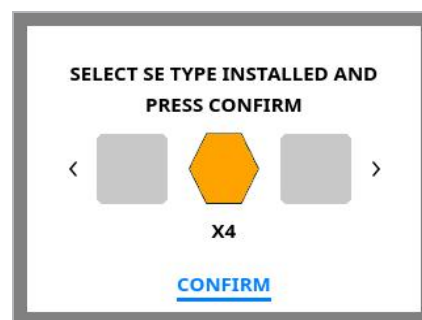

Figure 8-6: Selecting the sensing element type
Step 7: Using the display, select the appropriate sensing element type, then select **Confirm** (Figure 8-6).